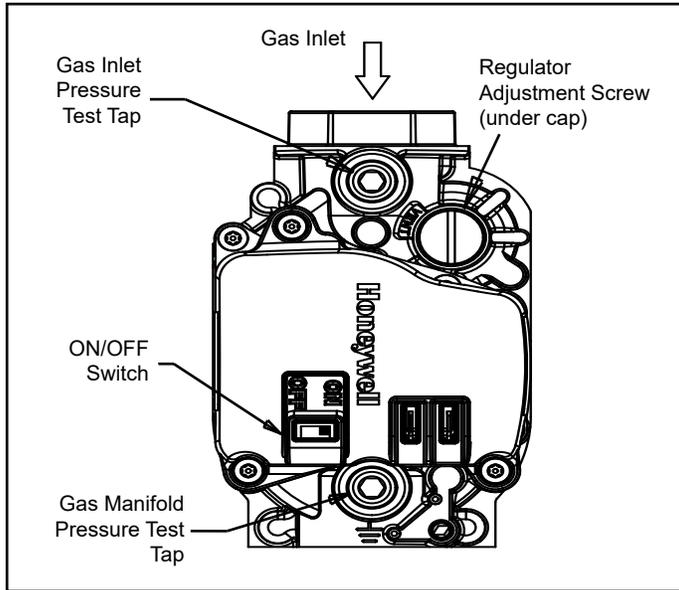

Figure 9. Gas Valve
The manifold pressure can be measured by removing the pipe plug in the automatic gas valve. Connect a water manometer and measure the pressure. See Figure 9.
3. Move the gas valve ON/OFF switch to the "ON" position (see Figure 9).
- Move the ON/OFF switch to the “OFF” position (see Figure 9).